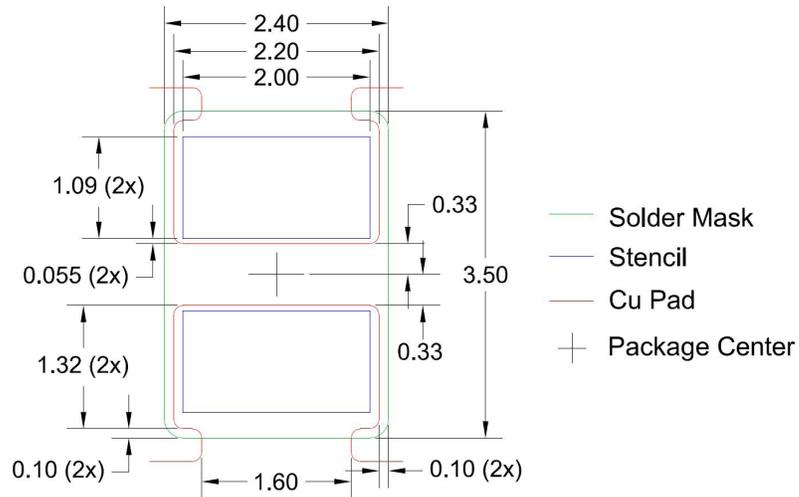

Figure 4. Recommended PCB footprint design for the LUXEON 3030 2D Plus Round, LUXEON 3030 2D Plus Square. All dimensions are in mm.
The recommended location of the sensor pad is right next to the cathode of the LUXEON emitter on the PCB, as shown in Figure 4 and Figure 5. To ensure accurate reading, the thermocouple (TC) tip must make direct contact to the copper of the PCB onto which the LUXEON emitter cathode pad is soldered, i.e. any solder mask or other masking layer must be first removed before mounting the thermocouple onto the PCB. The tip of the TC wire where two dissimilar metals are welded should be placed as close as possible to the LUXEON emitter package on the exposed cathode copper layer as shown in Figure 4. The thermal resistance $R\theta_{j-s}$ between the sensor pad and the LUXEON emitter junction was experimentally determined on FR4 PCBs for the two different designs (see Table 1). The junction temperature can then be calculated as follows: